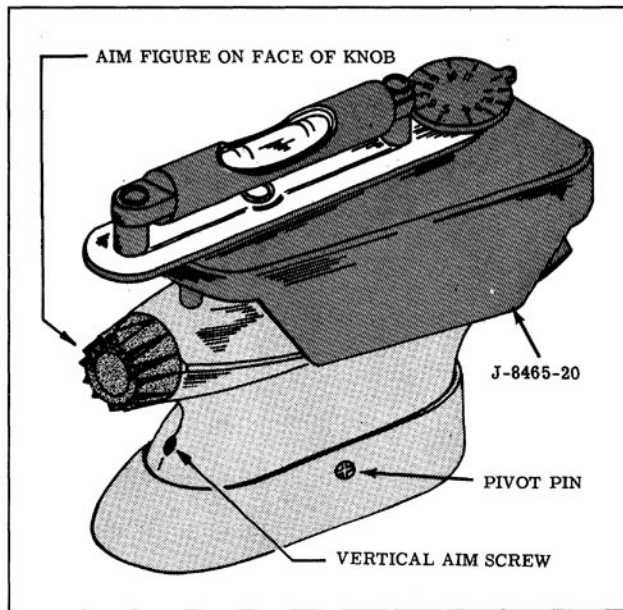

Fig. 12-54 Level Installation
2. Remove the pivot pin from the right side of the phototube unit base, (Fig. 12-54), then lift off the mounting plate and remove the phototube unit and wiring.
4. Set the Level J-8465-20 on top of phototube unit as shown in Fig. 12-54.